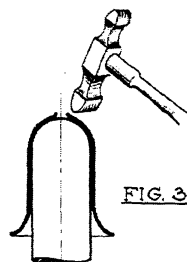

FIG. 3
6. Shrink the other end of the tubing, starting as shown in Fig. 2 and finishing as shown in Fig. 3.